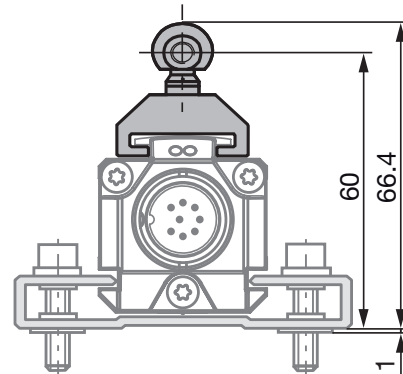
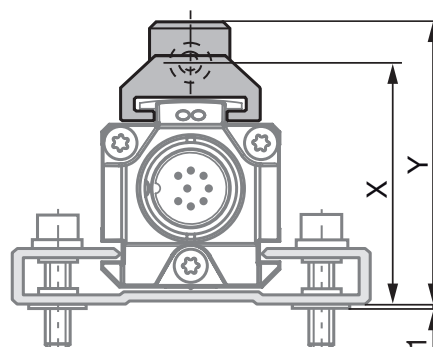
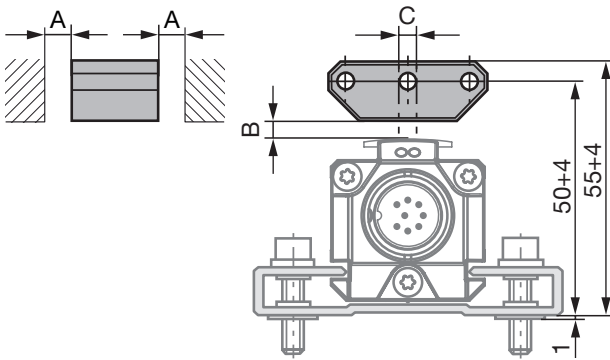
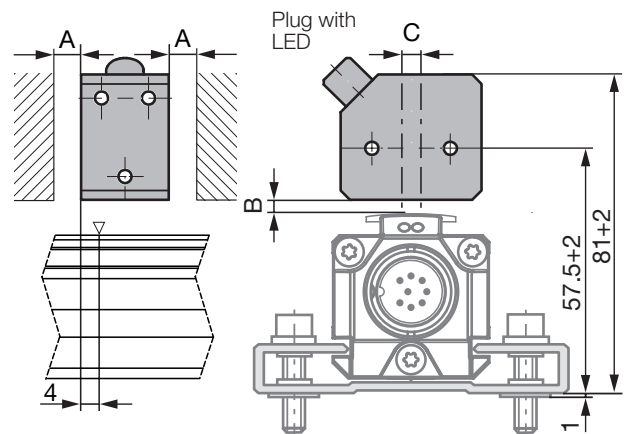

Fig. 4-1: Dimensions and distances with BTL5-F-2814-1S magnet
Fig. 4-3: Dimensions and distances with BTL5-M/N-2814-1S magnet
Fig. 4-4: Dimensions and distances with BTL5-P-3800-2 magnet
Fig. 4-8: Dimensions and distances with BTL5-P-4500-1 electromagnet (24 V/100 mA)
**i** The micropulse transducer in profile housing is suitable both for floating, i.e. non-contacting magnets (see Fig. 4-4 to Fig. 4-8), and for captive magnets (see Fig. 4-1 to Fig. 4-3).
- Ensure that the distance A between the magnet and parts made of magnetizable material is at least 10 mm (see Fig. 4-4 to Fig. 4-8).
- Maintain the following values for distance B between the magnet and transducer and for center offset C (see Fig. 4-4 to Fig. 4-8):
The measuring range is offset by 4 mm towards the transducer plug (see Fig. 4-8).